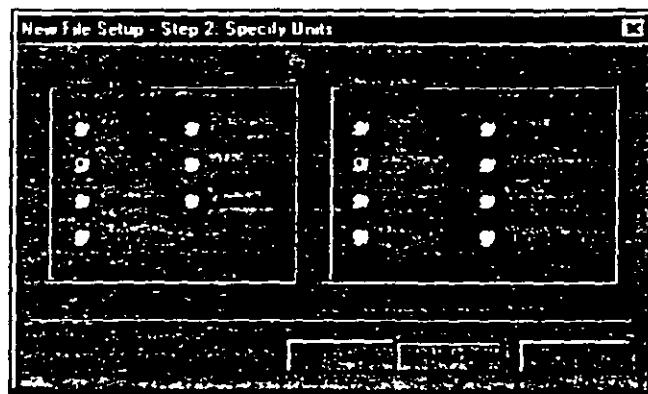

Figure 2.6
5. The next dialog box that comes up prompts us to select the length and force units in which we wish to start working in. So, specify the *Length Units* as *Foot*, the *Force Units* as *KiloPound* and click on the *Next* button as shown in Figure 2.6. Please note that the input units may be changed subsequently at any stage of building of the model.